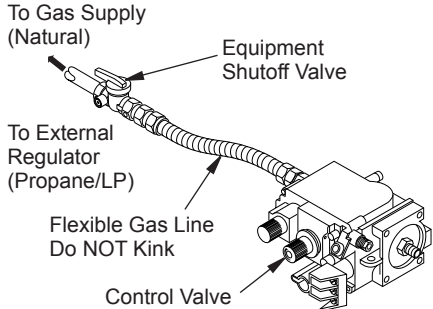

Figure 24 - Connecting Flexible Gas Line to Millivolt Valve
3. Attach flexible gas line from gas supply to the 1/2" flare fitting provided on control valve (see Figure 24).